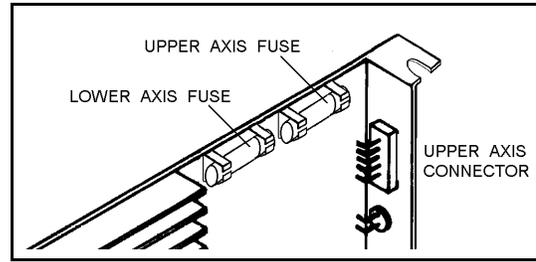

Figure 8-3: Driver Card Fuse
- If the driver card LED for this axis is not lit, check the corresponding fuse on the axis driver card. (Refer to Figure 8-3.)